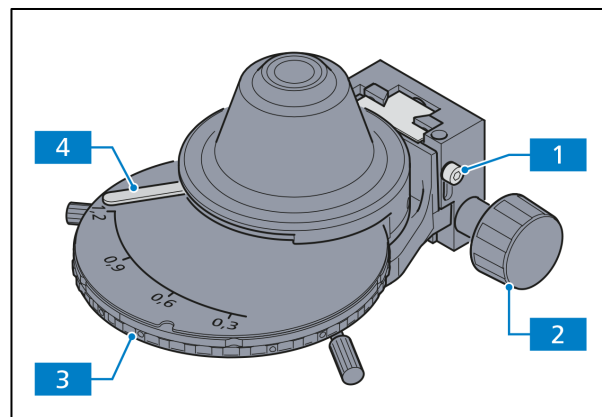

Fig. 4-4 Adjusting the height stop on the condenser carrier
- If condensers with a swiveling front lens are used, swivel these into the beam path with $\geq 10\times$ objectives and turn the knurled knob for vertical adjustment of the condenser (Fig. 4-3/3 and Fig. 4-4/2) to the top stop. Make sure the stop is adjusted to prevent the condenser from lifting out the sample (adjusting the condenser stop, section 4.2.1 (4)).
- On condensers with revolver/modulator disks: turn the knurled ring (Fig. 4-4/3) to position **H** (or **B** = brightfield).
- To adjust the aperture (contrast), take an eyepiece from the tube barrel. Looking through the barrel adjust the aperture with the adjusting lever (Fig. 4-4/4) of the aperture diaphragm to the size of approx. $2/3$ - $4/5$ of the diameter of the objective exit pupil (Fig. 4-3/E). In most cases this aperture gives the best contrast at almost full resolution and is thus the best compromise for the human eye.
(4) Adjusting the height stop on the condenser carrier
- Loosen the setscrew (Fig. 4-4/1) on the height stop with the Allen wrench (AF 3).
- Close the field diaphragm and adjust the condenser vertically (Fig. 4-4/2) until you get a sharp image.
- Tighten the setscrew (Fig. 4-4/1) on the height stop.